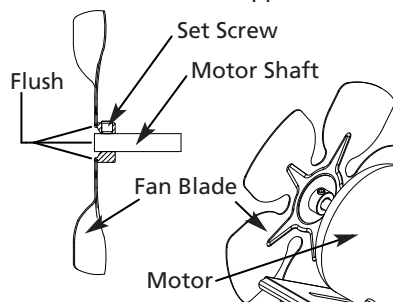

Figure 15 – Fan Assembly
- Turn nozzle adaptor 1/8 turn (45°) to counter clock wise and pull toward motor to remove. (See Figure 15)